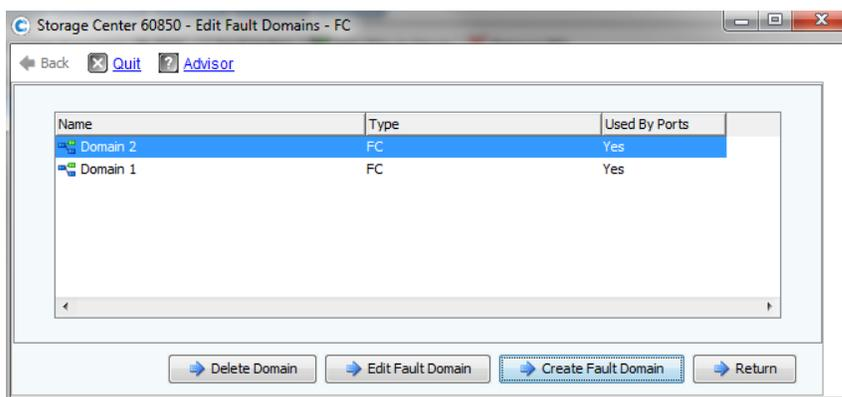

Figure 29 Creating an additional Fault Domain on Dell Compellent Storage Array
4. On the next dialog box click the **Create Fault Domain** button on the lower right of the dialog box. In the **Name** field type a name for the new domain. In this case, the name **Domain 2** was used. Make sure **FC** is selected in the **Type** field and click **Continue**. Figure 29 below shows a screenshot of the created second domain.